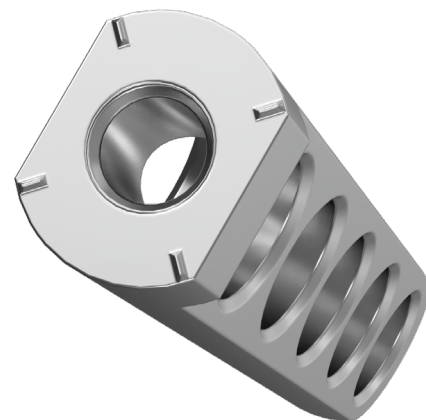

Figure 59
- Built-in teeth on the base increase the rotation resistance of the wire posts when tightened on aluminum and carbon fiber ring surfaces. (**Figure 59**)